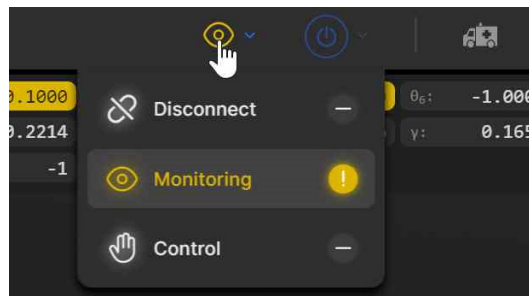

Figure 14: Connection state button
1. Click on the connection state button on the top right of the MecaPortal and select "Control" (see Figure 14).
Normally, once the web user interface is loaded, you have not only established an HTTP connection with the robot, but also activated the socket messaging which is the only communication channel between the web interface and the robot. By default, the web interface connects to the robot in monitoring mode only (as seen in Figure 14). To control the robot click on the ☺ icon and select ☹. Alternatively, you can use the MecaPortal in monitoring mode. The monitoring option can be used to see in real-time the motion of the robot when another client (e.g., another MecaPortal, a Python program, or a Profinet application running on a PLC) is controlling the actual robot.